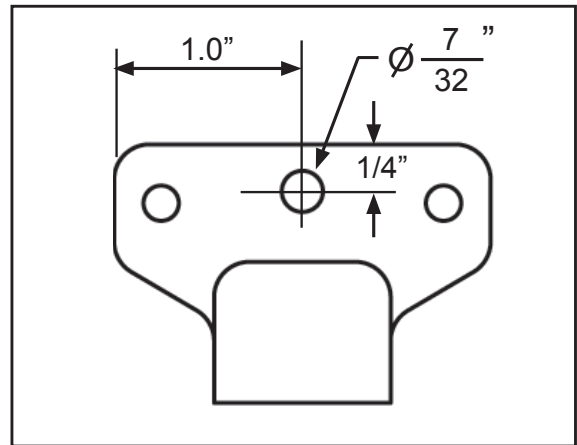

Figure 13
12. After verifying that the primary latch is properly adjusted to allow minimal movement and the secondary catch is in place, drill a 7/32" hole through the latch/catch mounting pad at the location illustrated in Figure 13.